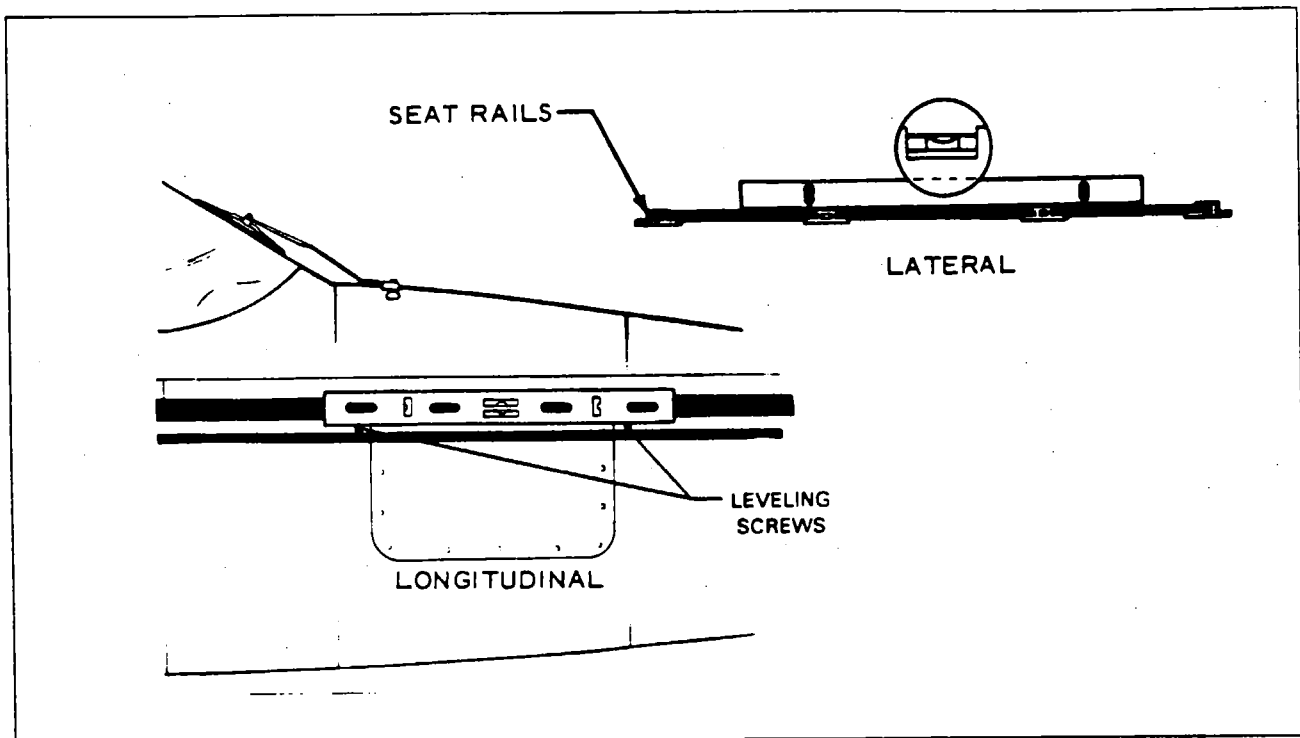

Figure 2-8. Leveling Longitudinally and Laterally
- a. To longitudinally level the airplane, partially withdraw the two leveling screws located on the right side of the fuselage nose section at station 48.35 and 80.25. (Refer to Figure 2-8.) Place a spirit level on these screw heads and deflate the nose wheel tire or adjust the jacks until the bubble of the level is centered.
- b. To laterally level the airplane, place a spirit level across the two center seat rails of the cabin (Refer to Figure 2-8) and deflate the tire on the high side of the airplane or adjust either jack until the bubble of the level is centered.